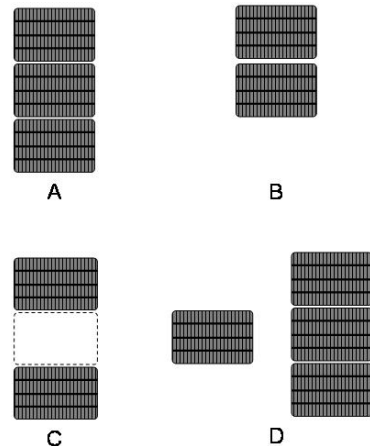

FIG. 6
The PhiBer® Bale Accumulator allows the operator to select among four (4) bale ejection modes (FIG. 6):